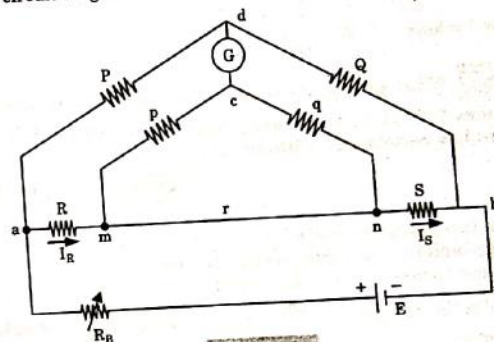

Fig. 2.1.1.
4. The circuit diagram is shown in Fig. 2.1.1.